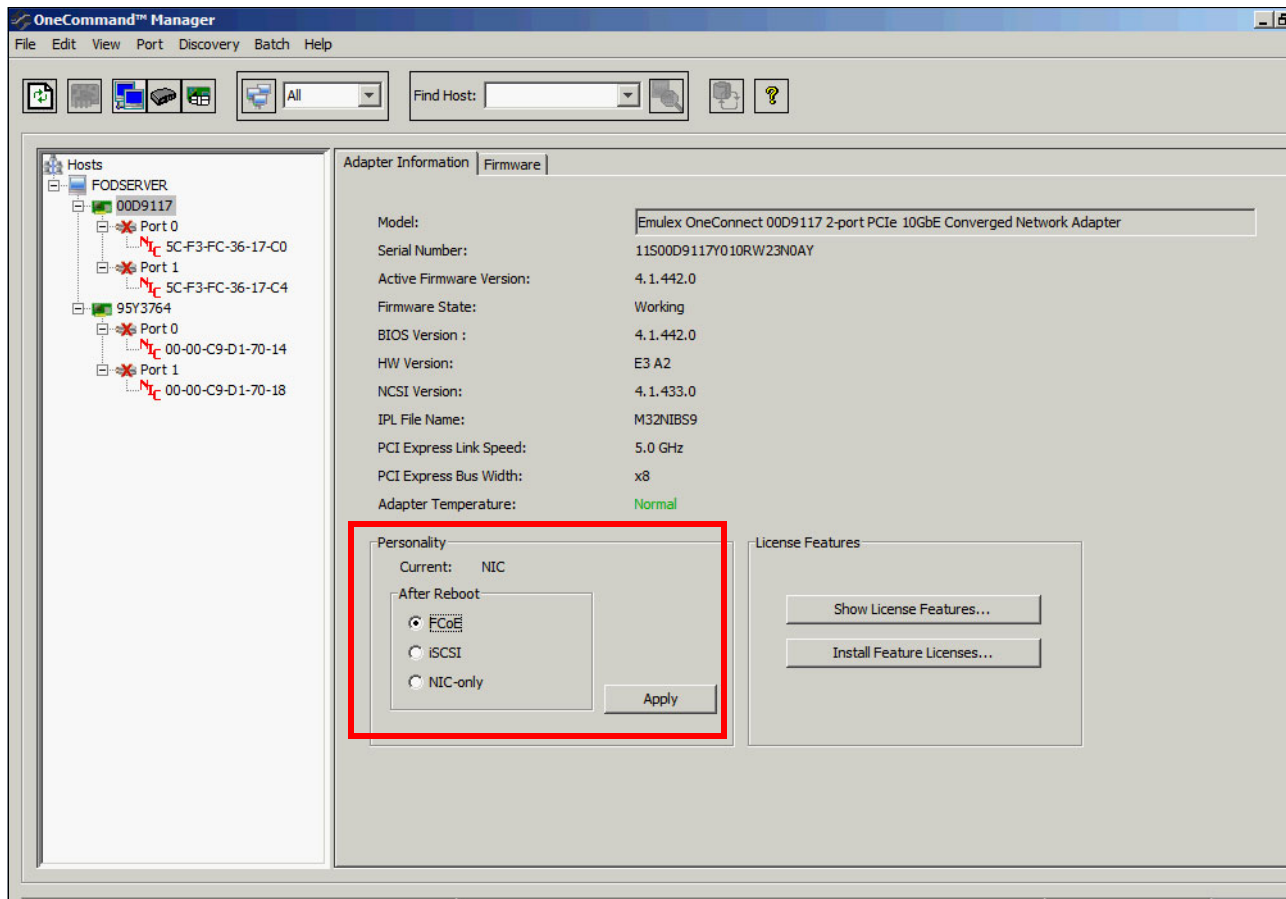

Figure 3-9 Emulex OneCommand Manage card personality selection
- ▶ The Emulex OneCommand Manager GUI indirectly shows you that the FoD upgrade is active if you can change the personality of the card to FCoE or iSCSI, as shown in Figure 3-9 on page 57.
3. Select the adapter. In the Adapter Information page, look for the Personality section (see Figure 3-9). From here, you can change the card to iSCSI or FCoE.
- ▶ The Show License Features and Install License Features options that are shown in Figure 3-9 are not used with IBM FoD and can be ignored.